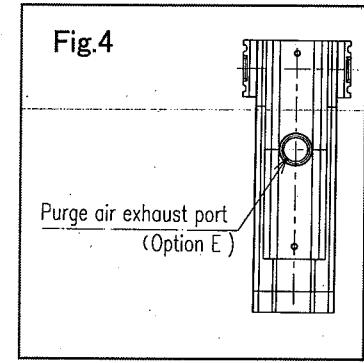

Fig.4
- 4) In case of the option E of SD3000 series, piping of exhaust air should use the hose or piping material of I. D. 8 mm or more, and give length as less than 3m. (Refer to fig.4)
- 5) In case of the option E of SD4000 series, piping of exhaust air should use the hose or piping material of I. D. 8.9 mm or more, and give length as less than 2m. (Refer to fig.4)